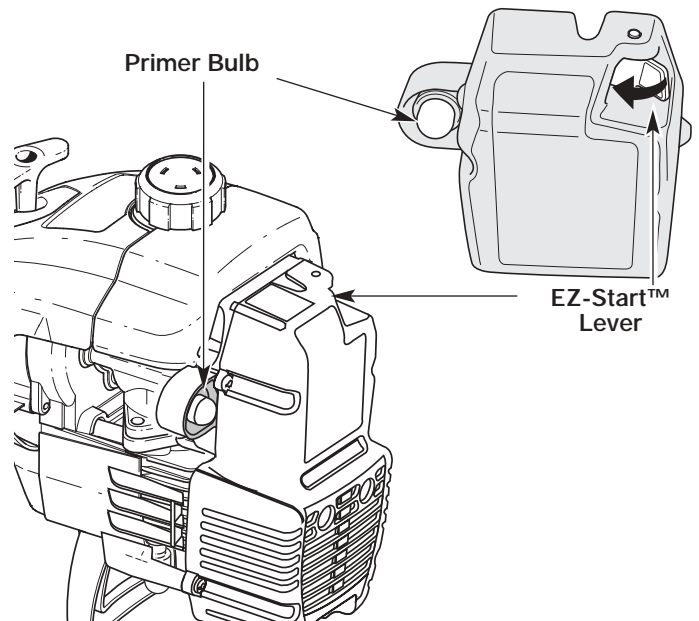

Fig. 17
3. Fully press and release the primer bulb 10 times, slowly, until **FUEL IS VISIBLE IN THE PRIMER BULB** (Fig. 17). If you can't see fuel in the bulb, press and release the bulb three (3) additional times, or as many times as it takes before you can see fuel in it.
4. Push the EZ-Start™ Lever to the left until it clicks and locks into place (Fig. 17).
6. When the engine starts, squeeze the throttle control for 5 to 10 seconds in order to warm up the engine. The EZ-Start™ Lever will click off automatically (Fig. 17).